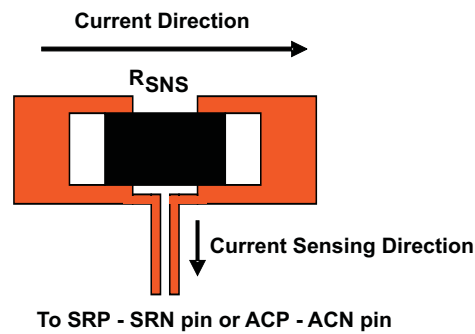

Figure 24. Sensing Resistor PCB Layout
4. The charging-current sensing resistor should be placed right next to the inductor output. Route the sense leads connected across the sensing resistor back to the IC in the same layer, close to each other (minimize loop area), and do not route the sense leads through a high-current path (see Figure 24 for the Kelvin connection for best current accuracy). Place decoupling capacitors on these traces next to the IC.